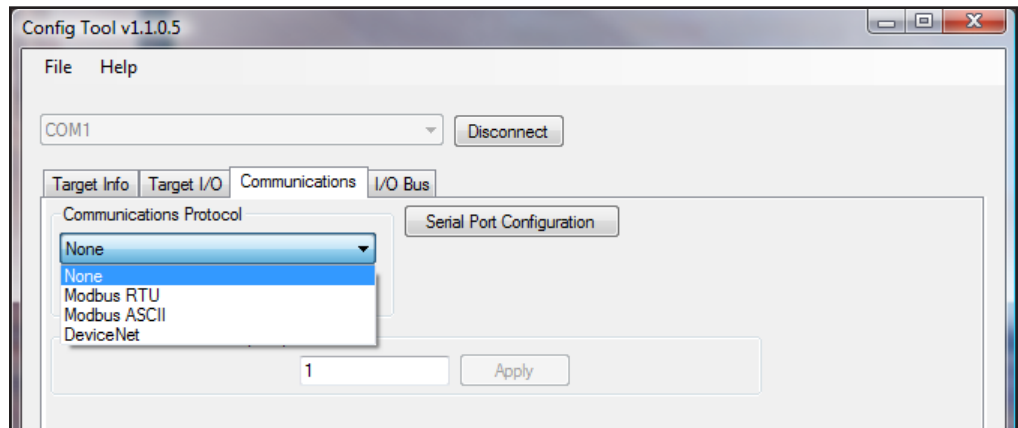

Figure 13
- A. Select Modbus RTU, ASCII or Modbus TCP using the drop down menu. The Modbus RTU or ASCII refers to communications via the Serial Port (RS-232/RS-485). Modbus TCP refers to communications via the Ethernet port. Reference image on the right (see figure 13).